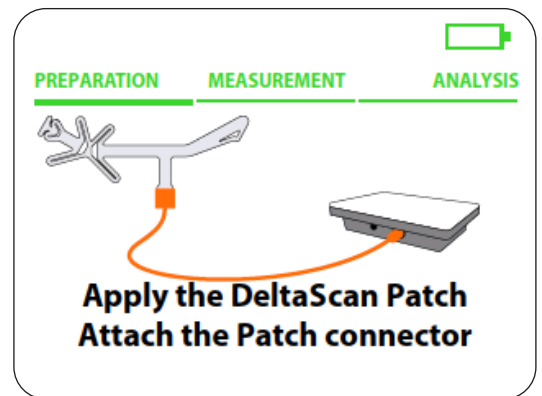

Figure 18: Monitor screen asks the user to apply and connect the DeltaScan Patch.
When the device test was successful, the Monitor screen will automatically ask the user to apply and connect the DeltaScan Patch, as is displayed in Figure 18.
- E) The Patch is now well connected. The Connection-LED should now be green (see Figure 18).